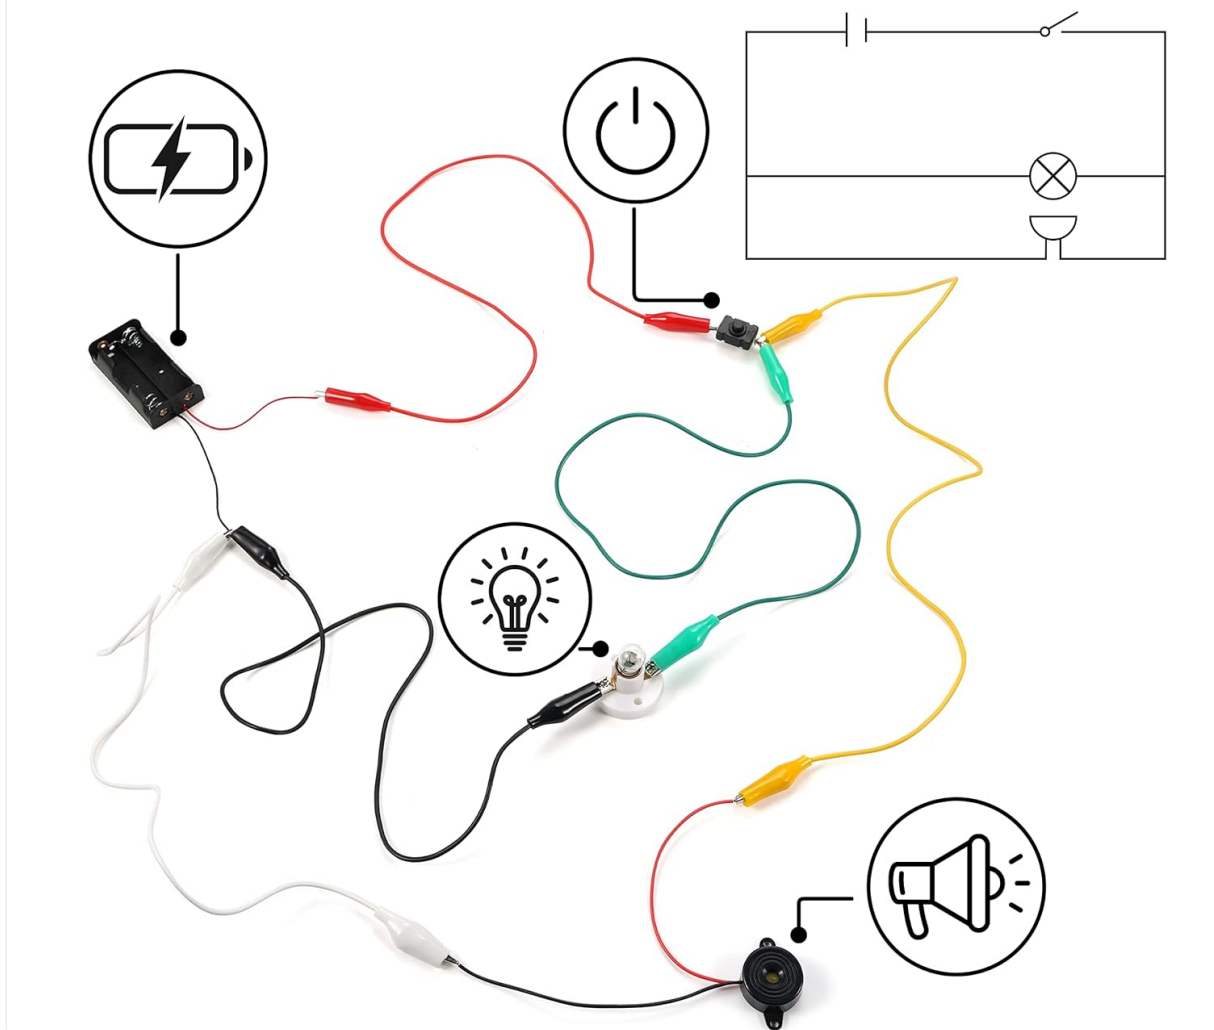

Figure 1.1: Short Circuit Diagram vs. Correct Circuit Diagram. Always ensure connections are made correctly to prevent short circuits.
- Check for short circuits (where positive and negative terminals are directly connected without a load). Refer to Figure 1.1.